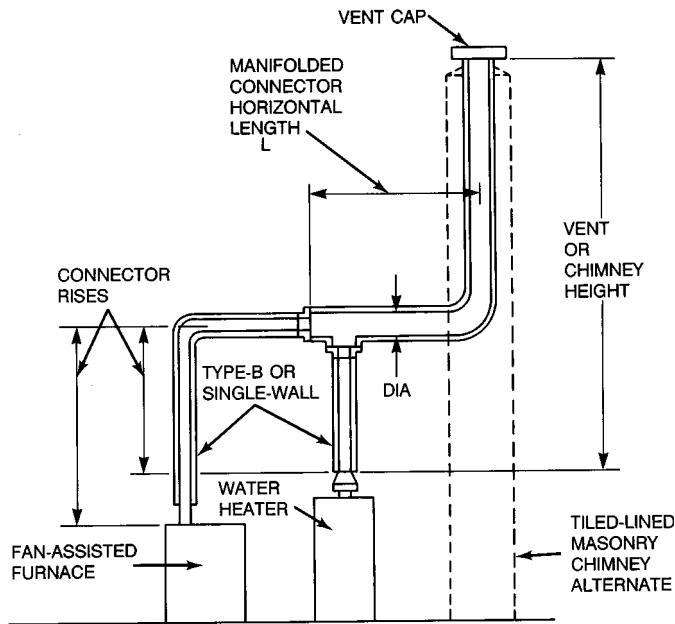

Fig. 5—Manifolded Vent Connectors for Use With Tables 1 through 8
- d. Vent connectors may be manifolded (common-vented below the vent) as noted in the second table below and as shown in Fig. 5. A manifolded connector shall be sized as a common vent (not a connector) with the same table used to size the connectors and common vent. If the vent or furnace connector is Type-B, the manifolded connector shall also be Type-B. For a chimney sized with Table 7 or 8, single-wall pipe may be used for a manifolded connector, but Type-B is recommended.